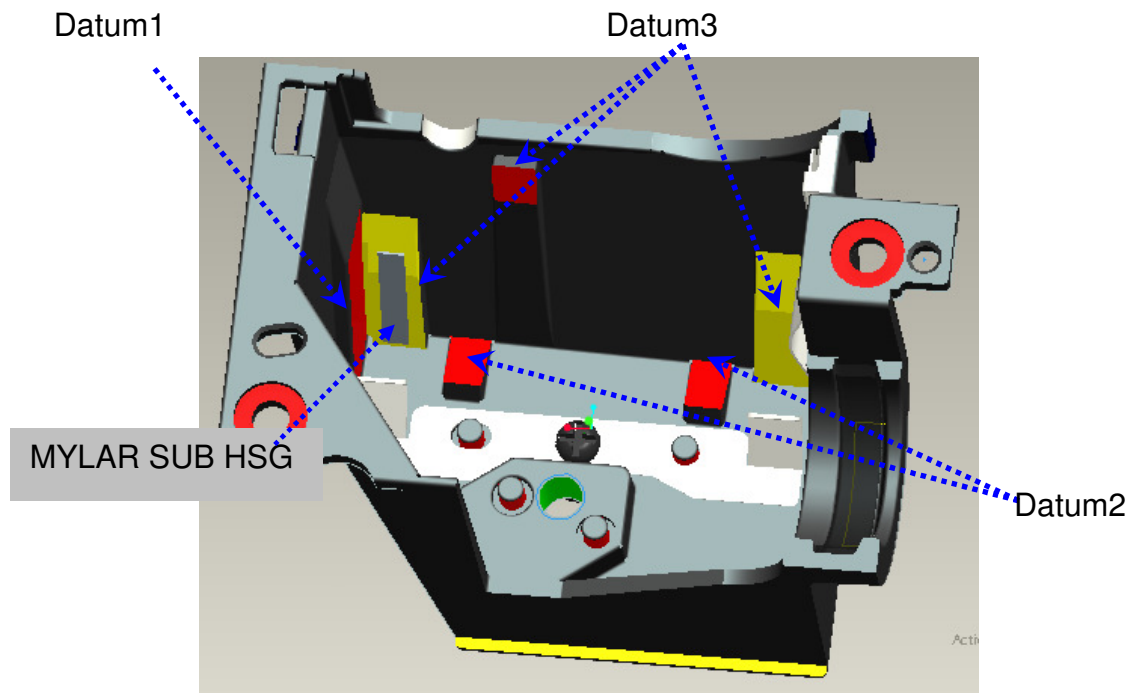

Fig. 3-3
- II. Assemble Mylar SUB HSG to HSG ILL well (Fig. 3-3).
- III. Assemble CM to HSG ILL and to make CM contact three datum on the HSG ILL Well (Fig. 3-3).